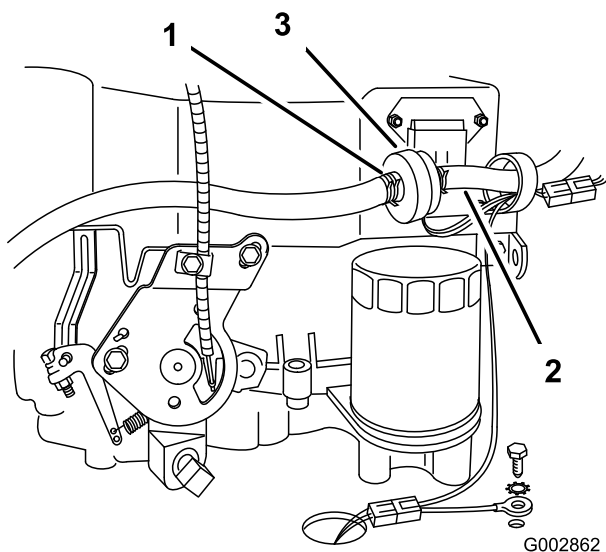

Figure 27
3. Squeeze the ends of the hose clamp together and slide it up the fuel line away from fuel filter (Figure 27).
4. Pull the fuel line off the fuel filter (Figure 27). Open the fuel shut-off valve and allow the gasoline to drain into a gas can or drain pan.
3. Squeeze the ends of the hose clamps together and slide them away from the filter (Figure 27).